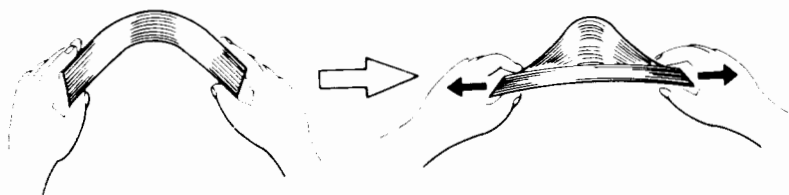

Figure 2-17 Separating the sheets
- b. Take the stack of paper and bend it back and forth several times as shown in Figure 2-17 to prevent the sheets from sticking together.